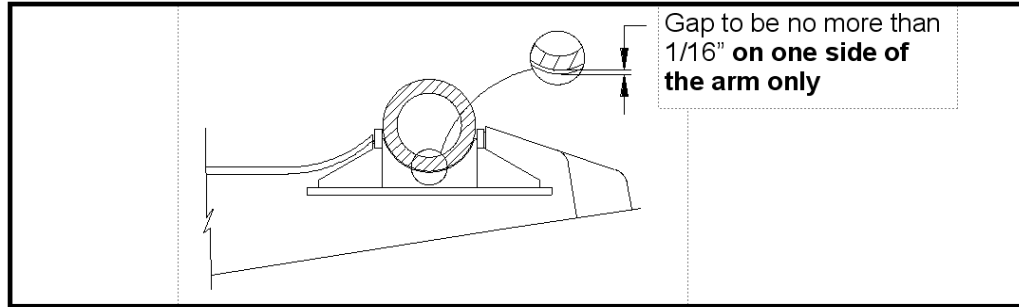

Figure 4
- APPLY WELDS IN THE SIZES AND SEQUENCE SHOWN IN FIGURE 1, AND 3. APPLY WELDS IN AREAS SHOWN IN FIGURE 4. THE ELECTRODE SHOULD BE BACKED UP TO FILL IN THE FILLET CRATER AT THE END OF EACH PASS. THE CORNERS SHOULD BE WRAPPED. CLEAN THE WELD BETWEEN EACH PASS.